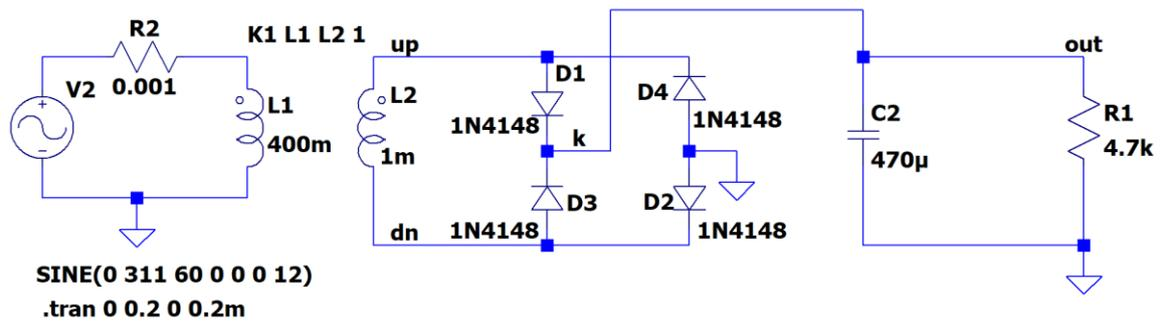

Figure 5.1 Bridge rectifier circuit.
3. First, you have to add all components required to build the circuit (Fig. 5.1) on your schematic, except for the capacitor.12 Note: to add the coupling coefficient between the two inductors, go to Edit >> SPICE directive, and type: K1 L1 L2 1.
12. Connect the capacitor as shown in Fig 5.1, and rerun the simulation to see how that affects the ripple in the output voltage waveform. Experiment with lower values of capacitance (10  $\mu\text{F}$  for example) to see the effect on the output waveform ripple.